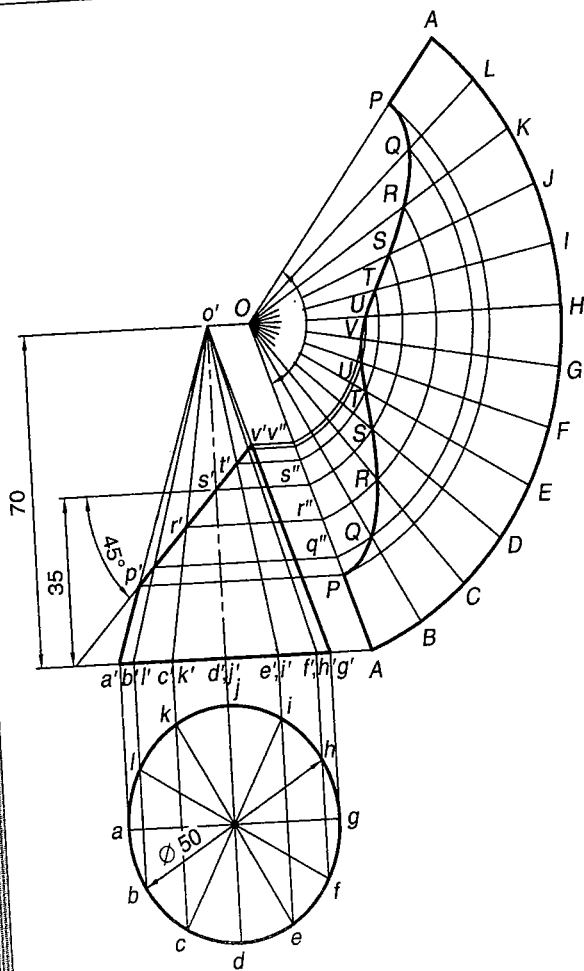

Fig. 13.7
**PROBLEM 13.7 (FIG. 13.7)** A cone with a 50 mm base diameter and a 70 mm long axis, rests on its base on the H.P. Draw the development of its lateral surface when it is cut by an auxiliary inclined plane bisecting the axis and inclined at  $45^\circ$  to the H.P.
CONSTRUCTION Figure 13.7